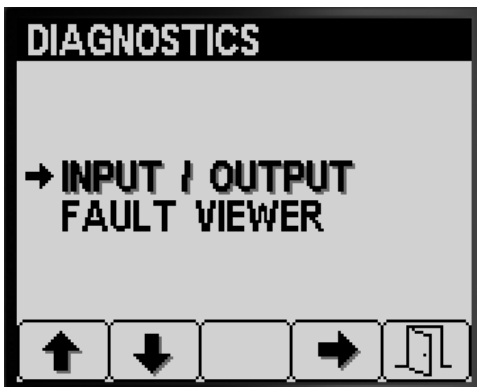

Figure 84
- Press button 1 or 2 on the Diagnostics screen until you reach the INPUT/OUTPUT option (Figure 84).
- Press button 3 to select the INPUT/OUTPUT entry (Figure 84).
- Press button 5 to exit the INPUT/OUTPUT screen, and return to the DIAGNOSTIC screen (Figure 84).